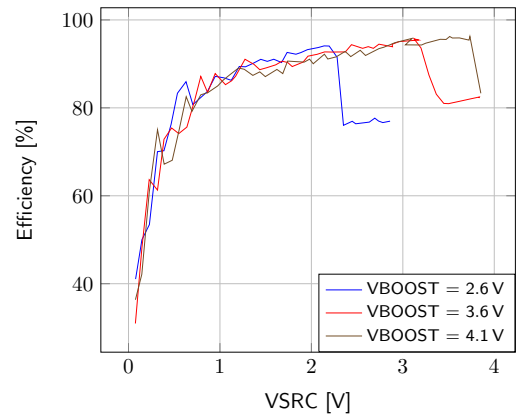

Figure 8: Boost efficiency for  $I_{SRC} = 1 \text{ mA}$
- **VBOOST**: Measure the current and the voltage. Repeat the measurement a copious number of times to be sure to capture the current peaks. Figure 8 has been obtained by averaging over 100 measurements configured with a 100 ms integration time.